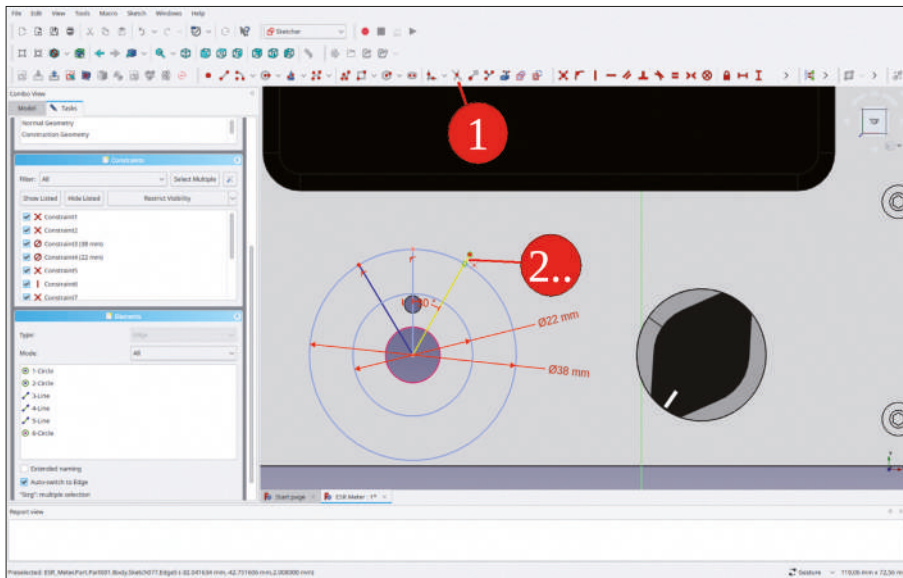

Figure 8-8
12. Click the 'Trim edge' tool button and trim all parts of the lines which are located outside of the bigger circle (Figure 8-8).